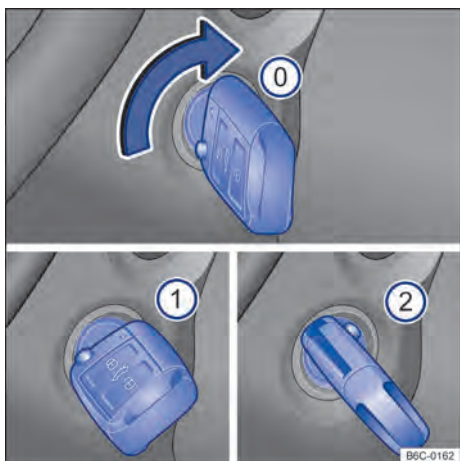

Fig. 89 Next to the steering wheel, to the right: vehicle key positions on the ignition cylinder.
Positions of the key in the vehicle → Fig. 89
- ① Ignition switched off. The vehicle key may be removed.
- ② Ignition switched on.
- ③ Step on the brake pedal – (vehicles with automatic gearbox), or on the clutch pedal (vehicles with manual gearbox) and turn the engine on. When the engine catches on, release the ignition key. Upon release, the vehicle key returns to position → Fig. 89 ①.
- *Vehicles with ignition lock*: rotate the vehicle key to → Fig. 89 . Ignition switched on. The warm starting system's indicator lamp  will then light up on the instrument cluster. Wait until the indicator lamp  is disabled, indicating the end of the fuel warming process (this action may be required when starting cold engines).
- *Vehicles with ignition lock*: turn the vehicle key in the ignition lock to position → Fig. 89  – do not accelerate. When the engine catches, release the ignition key.
- *Vehicles with ignition lock*: rotate the vehicle key in the ignition lock to → Fig. 89 .